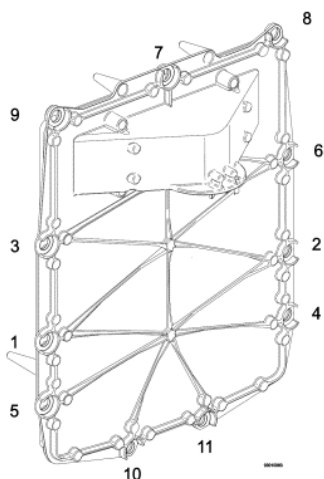

Figure 45: Tighten Allen bolts in cross pattern direction.
2. Place the heat exchanger cover onto the heat exchanger and loosely install the 6mm Allen bolts removed in step 6. Tighten the 6mm hex bolts in a cross pattern as shown in Figure 45.